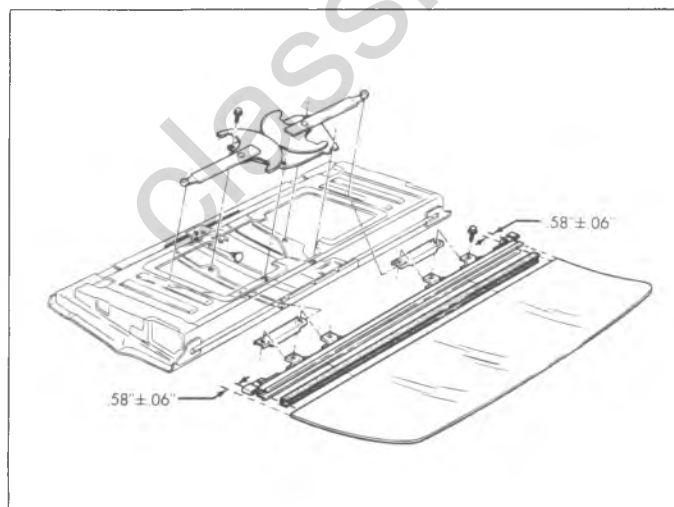

Fig. 65—Window and Regulator
10. Refer to figure 65 for window and regulator installation.